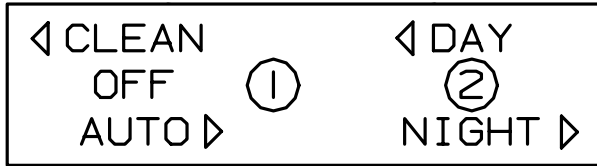

Figure 9-2 Selector (Toggle) Switch Positions
6. When the cylinder has filled with sanitizing solution, reconnect the main power supply to the freezer. Turn the selector switch to the "CLEAN" position (figure 9-2) and allow the beater to run for 5 minutes. During this time period, check for leaks around the head, plunger and drain tube.